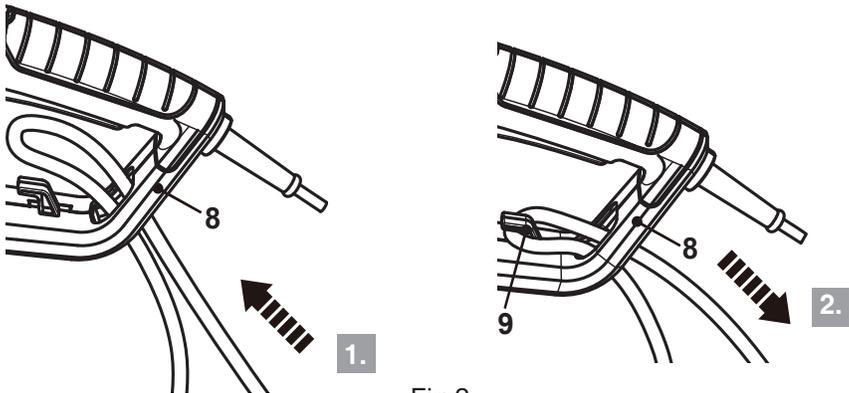

Fig.2
1. Double the extension cord back, about 30 cm from the end and lead the loop through the hole of the rear safeguard (8) (Fig. 2, step 1).
2. Pull it over the cord retainer (9) and gently tug on the cord to ensure that it is firmly secured (Fig. 2, step 2).